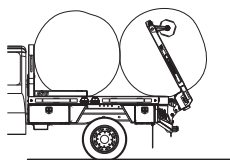
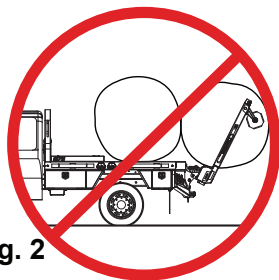

Fig. 1
Fig. 2
**CAUTION:** When hauling one bale, make sure it is held tightly and rests on the bed. When hauling two bales make sure the second bale is as far forward as possible (Fig. 1). Carrying a bale behind the bed, as shown in (Fig. 2) places excessive stress on the cylinder, linkage, and pins.